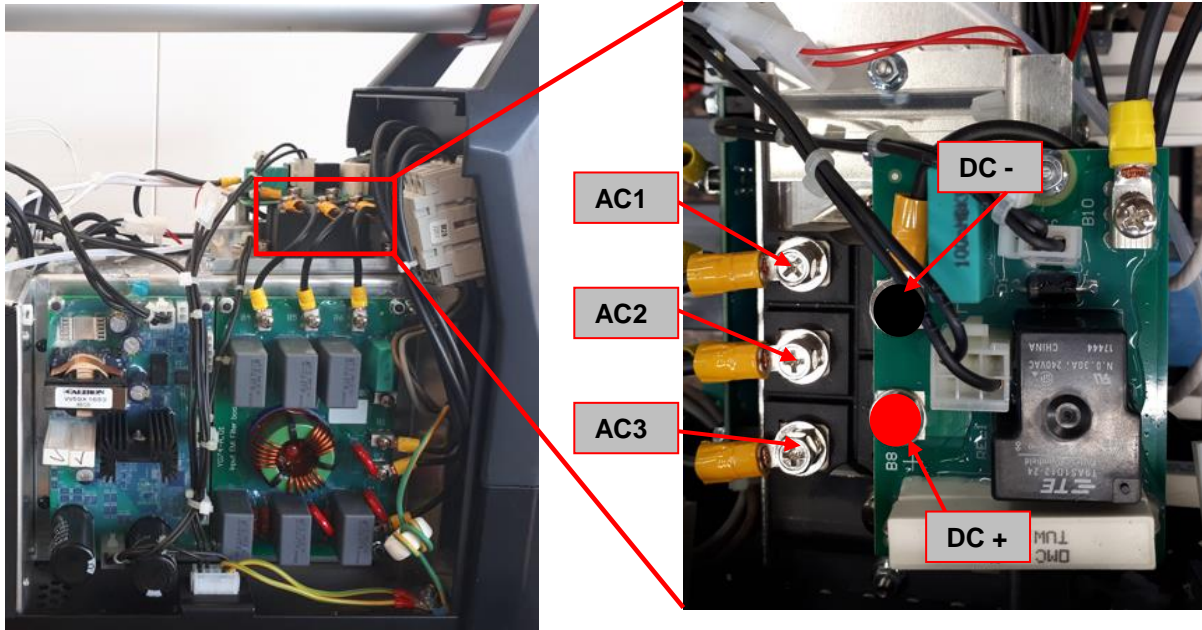

Figure 3 – Input Rectifier Bridge location and Test Points
3. Locate the Input Rectifier Bridge. See **Figure 3**.
4. Using the multimeter (diode test mode) perform the tests as detailed in **Test table 2**. See also **Figure 3** for terminals locations.